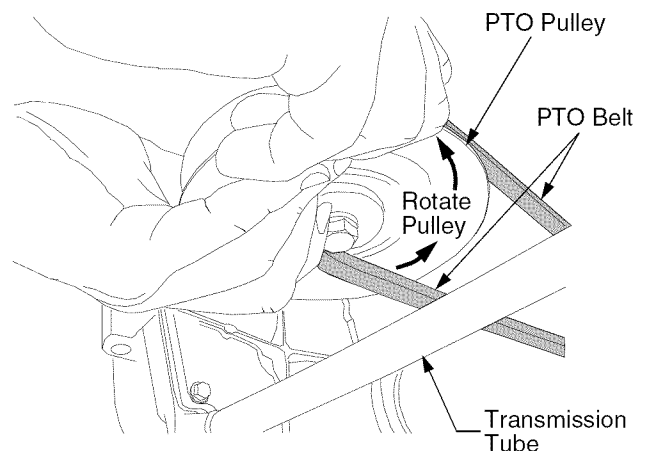

Figure 30
- While still holding the belt downward, continue turning the PTO pulley until the belt is rolled off the pulley. Refer to Figure 30
- Pull the right side of the belt rearward and place the narrow V side of the belt into the PTO pulley. See Figure 30.
- While holding the belt and pulley together, rotate the pulley to the left (See Figure 30). Continue holding and rotating the pulley and belt until the belt is fully rolled into the PTO pulley. **NOTE: If using the left side of the belt, turn the pulley to the right.**